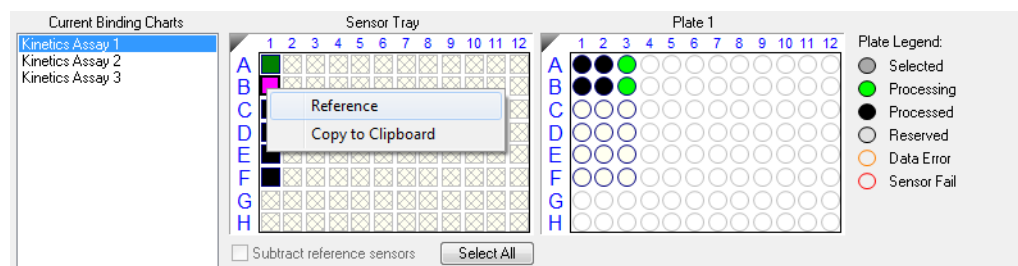

Figure 8-58: Designating a Reference Biosensor in the Runtime Binding Chart
- In the **Sensors to Chart** list or the **Sensor Tray**, right-click a biosensor and select **Reference** (see Figure 8-58).